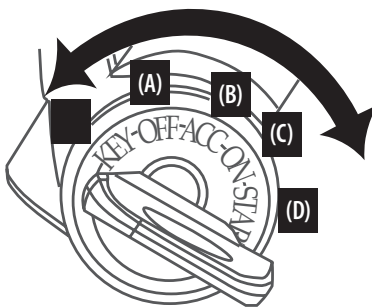

Figure 4-3
3. Insert the key into the ignition and turn it to the START position. Release the key when the engine starts. See Figure 4-3.